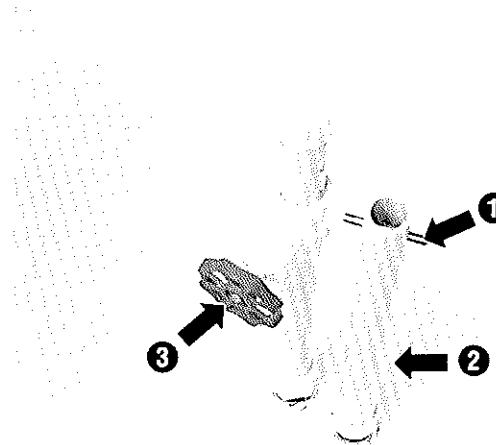

Figure 16
1. While the boat is running, remove the drain tube (2) from the bottom of the baitwell. To remove the drain tube, turn the rod (3) counterclockwise. See figure 16.